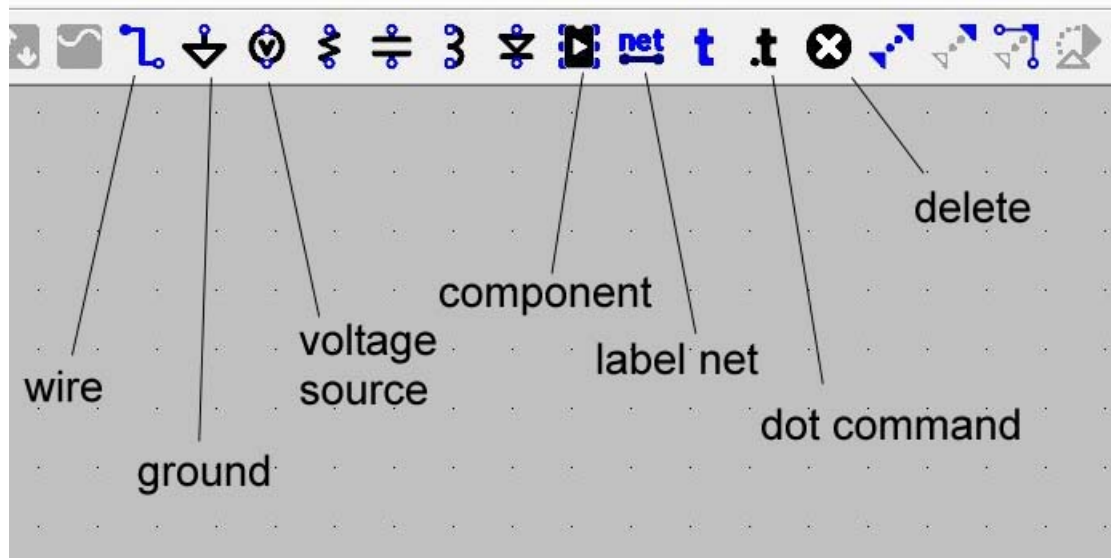

Figure 4: Icons used to create schematic
If you are new to LTspice, or just out of practice, the checklist below will guide you. Figure 4 show the icons that you will be using. Create the schematic now:
1. Click the Component icon (see Figure 4), then select spice_test on the list (scroll to the right). Click the Place button, then position the symbol at the center of the screen and click. Hit <Esc> or right-click to stop placing additional copies.